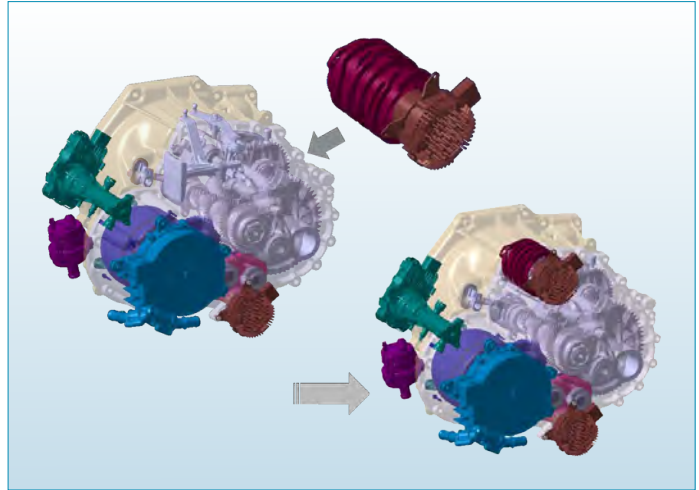

Figure 3 Step 3 – adding gear shift actuation
Step 3 includes the integration of an automatic gearshift unit (e.g. shift drum), thus transferring the hybrid MT into an automated hybrid transmissions (AHT), **Figure 3**. In this configuration, the P3 arrangement of the e-motor helps to fill the torque interrupts that are typical for AMTs, thus significantly improving shift comfort.